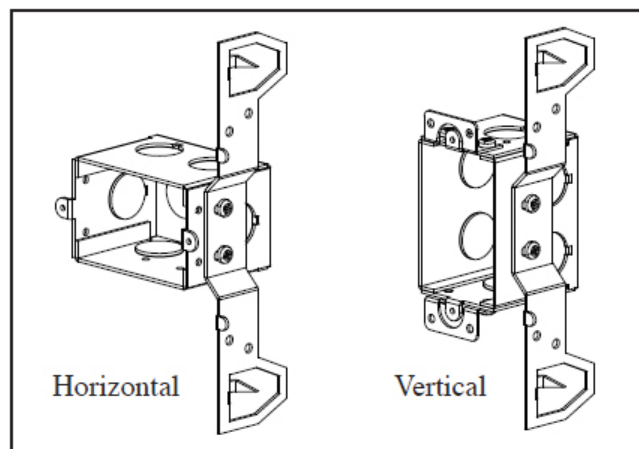

Figure 2
1. A hanger strap is provided to simplify the mounting of the back box. If not already attached, attach the side hanger strap to the side of the back box as shown in Figure 2. Note that the side hanger strap can be installed on the back box in either a vertical or horizontal orientation into the screw holes provided. Check to make sure the orientation matches the WayGlo faceplate ordered. (The flanges at the top and bottom of the back box can be removed.)